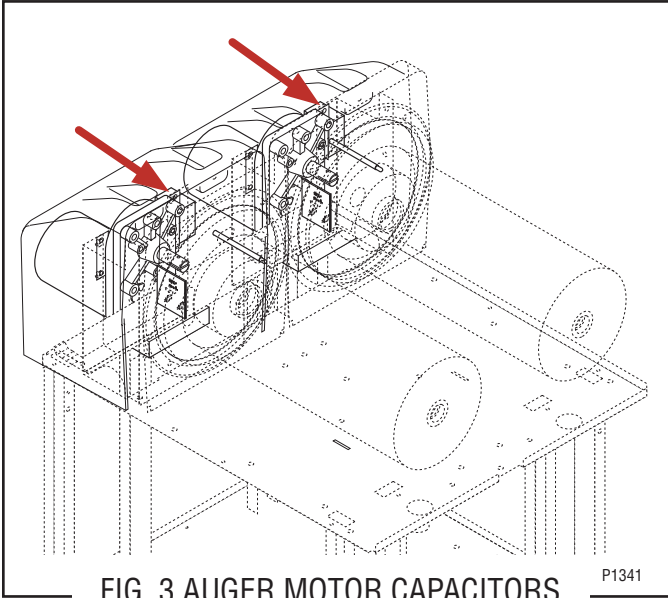

FIG. 3 AUGER MOTOR CAPACITORS
12. Place a small amount of #29563.0000 “Krytox” lubricant (provided in kit in a plastic cap) on the end of the motor shaft (about 1 1/2”) and a thin film in the groove. Install auger shaft assembly onto the motor shaft. See FIG 3. Do not use too much “Krytox” lubricant. Dirt or grease on pins will cause “optical” misreading by torque sensors.
13. Assemble motor/shaft assembly as shown in FIG 3, then install assembly into cooling drum. Make sure the pins do not hit the sensor board and cooling drum seal is not dislodged as the shaft passes through.